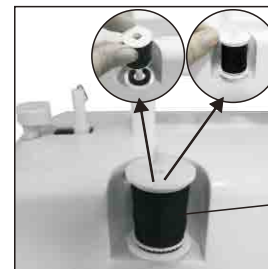

Fig. 11
- (1) Put a spool of thread on spool pin (Fig.11).